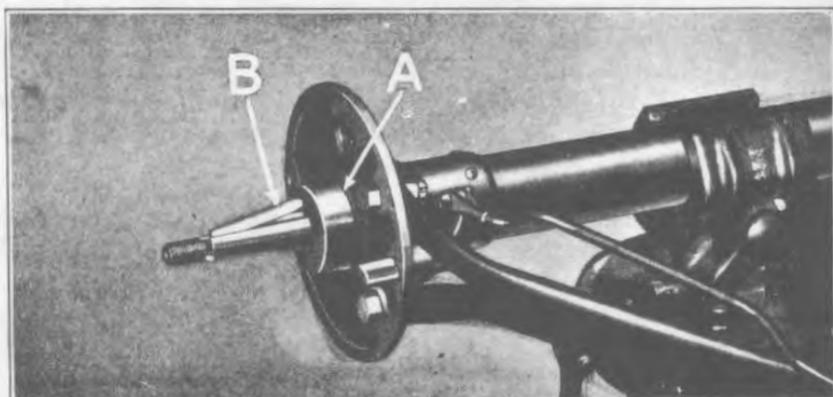

Fig. 358
- 638 Insert felt retainer over end of axle shaft positioning it over end of axle housing (See "A" Fig. 358).